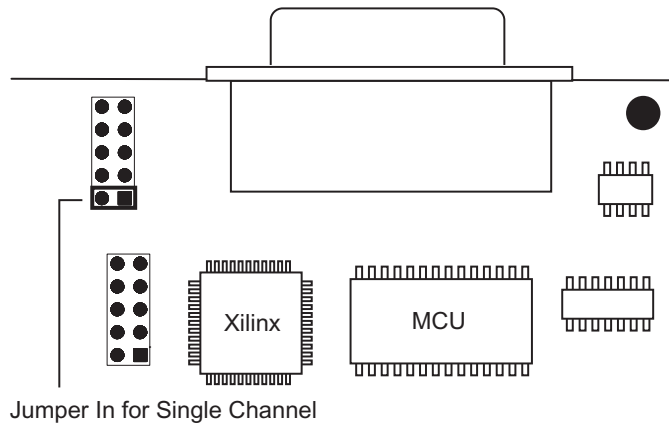

FIGURE 12. AX1500 Jumper setting for Single Channel Operation
- Insert a jumper as shown in Figure 12.